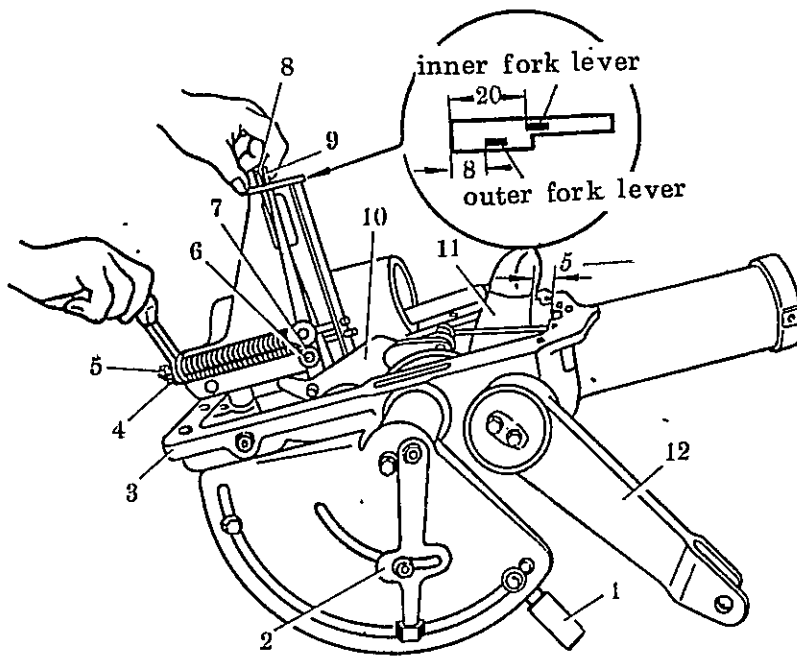

Fig . 4- 26
- 1). Adjustment of the clearance between the driving spiral bevel pinion bearings 7308, 2207107 (Fig4. - 17).